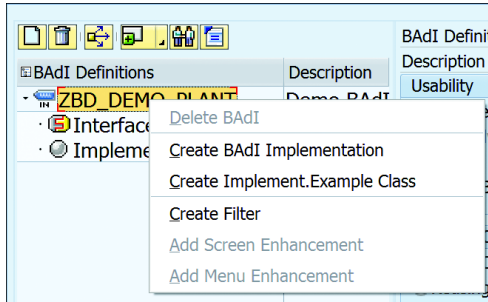

Figure 20.34 Creating Filter
4. You can define a filter for the BAdI by right-clicking on the BAdI definition name and selecting CREATE FILTER from the context menu (see Figure 20.34).
1. Implement the BAdI either using Transaction SE19 or simply by right-clicking the BAdI definition name and selecting CREATE BADI IMPLEMENTATION (see Figure 20.34).